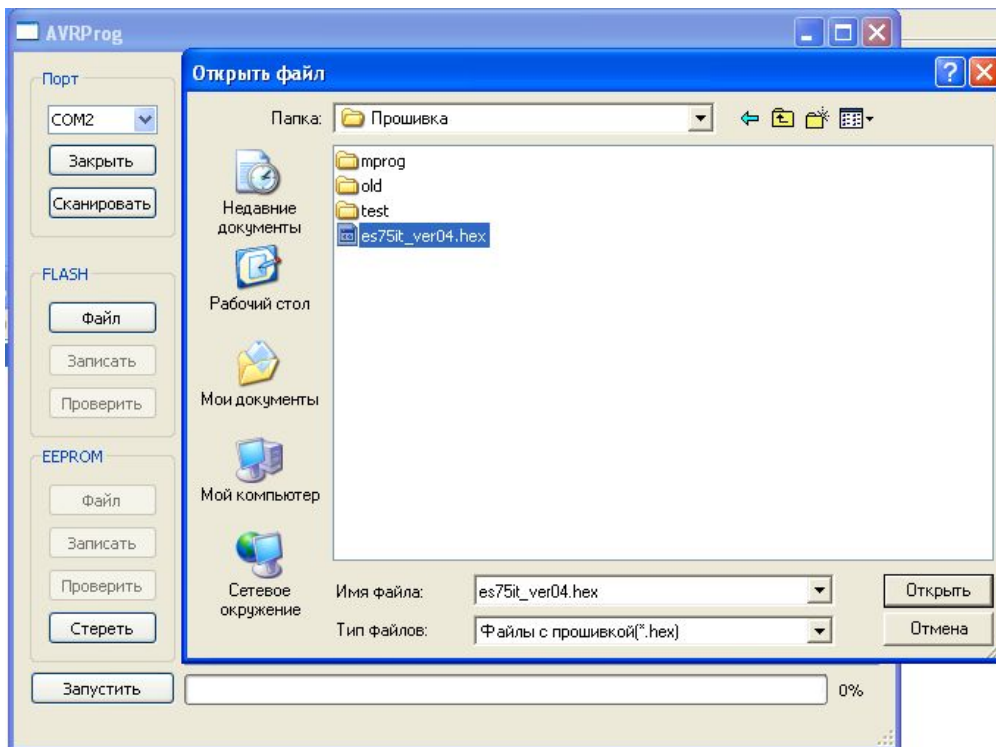

Fig.4
4. Select the new weaving file by clicking the “File” button. A window will appear (Fig.4).